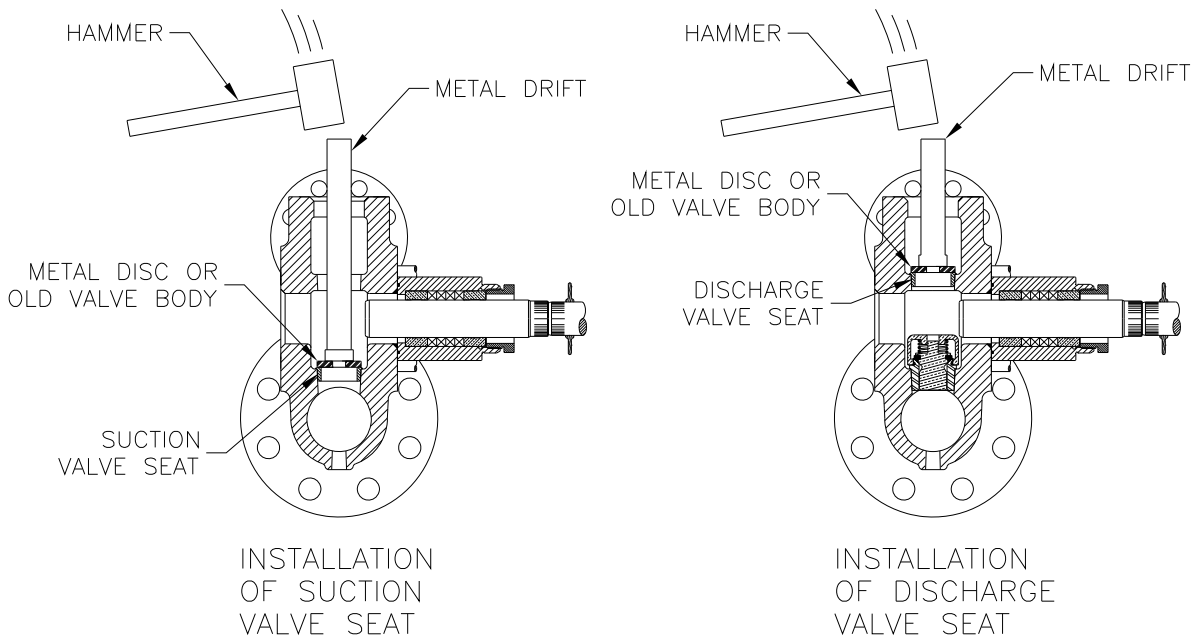

FIGURE 15
- d. Using a metal plate or old worn valve body, drive the seat into place with several sharp blows from a hammer and bar. (See Figure 15)